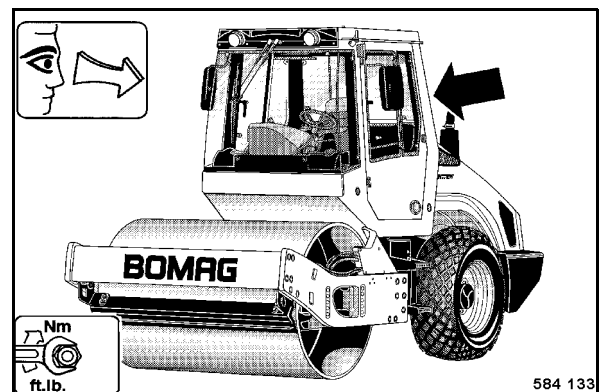

Fig. 170
- Inspect the cabin, especially the ROPS (Fig. 170), for cracks, corrosion, damage and missing fastening parts.